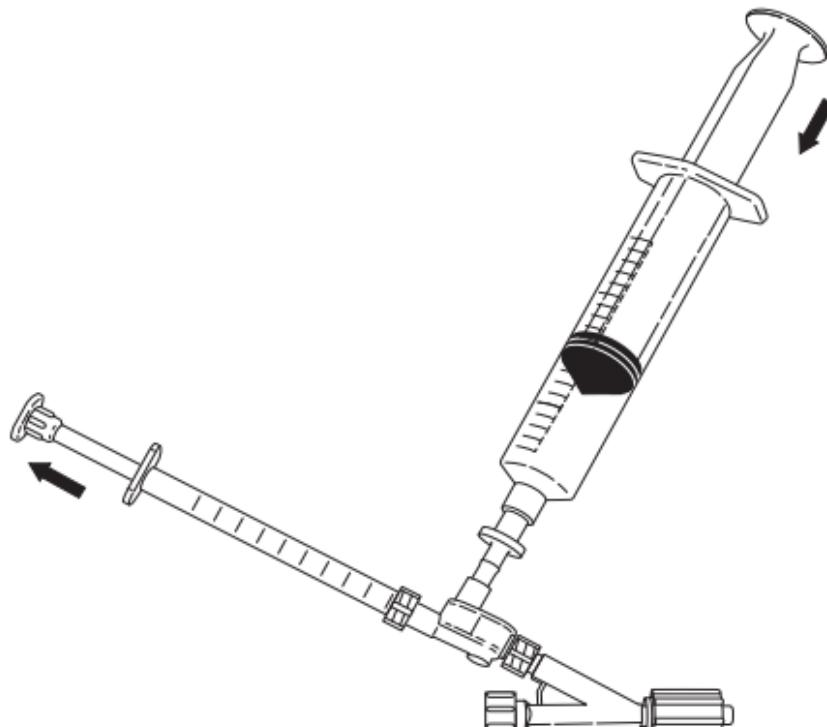

Fig. 4
6. Attach the 1 ml syringe to the injection port and aspirate 0.5 ml of solution. Detach the 1 ml syringe and purge all air bubbles from the syringe. Leave a meniscus of solution on the injection port before the 1 ml syringe is reattached by depressing the 20 ml syringe slightly to prime the injection port. Reattach the 1 ml syringe to the injection port. (**Fig. 4**)